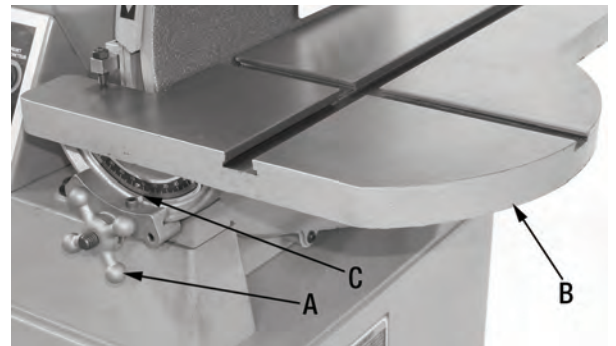

Figure 14
1. Loosen lock knobs (A) Fig.14 on both sides of the sanding disc table.
2. Tilt the sanding disc table (B) to the desired angle, use the scale and pointer (C) as a guide to set the desired angle.